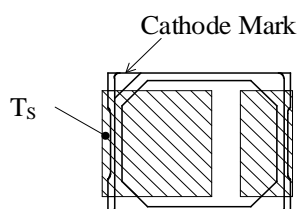

Figure 1.  $T_S$  Measurement Point
(2) Solder point temperature,  $T_S$ , is defined by land pattern of cathode side (see Figure 1).